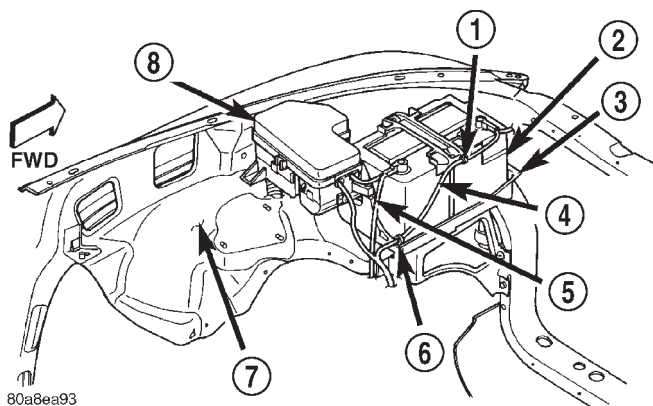

Fig. 15 Power Distribution Center
(1) Disconnect and isolate the battery negative cable.
(2) Remove the cover from the Power Distribution Center (PDC) (Fig. 15).